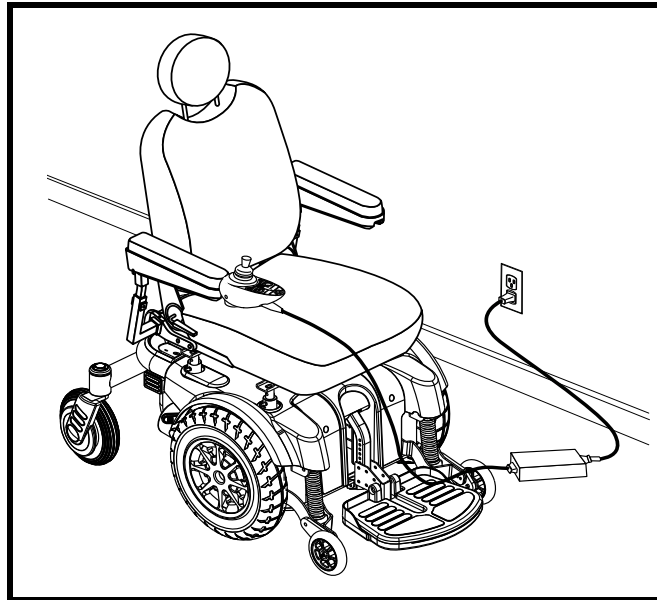

Figure 25. Battery Charging
1. Position the front of your power chair next to a standard electrical outlet. See figure 25.